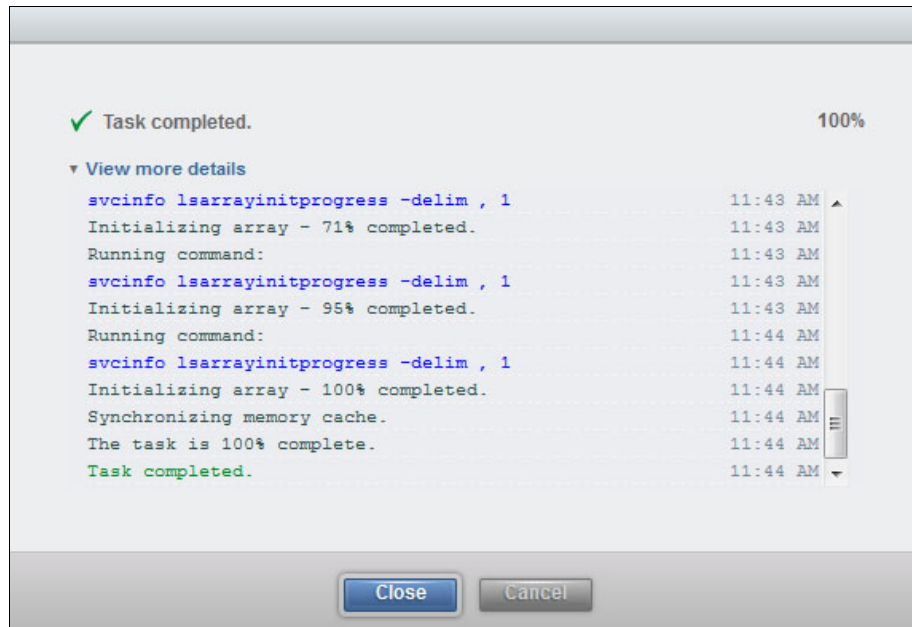

Figure 5-23 Task completed after adding control and storage enclosures
7. After a few minutes the array initialization task finishes. Click **Close** in the Task Completed window (Figure 5-23).